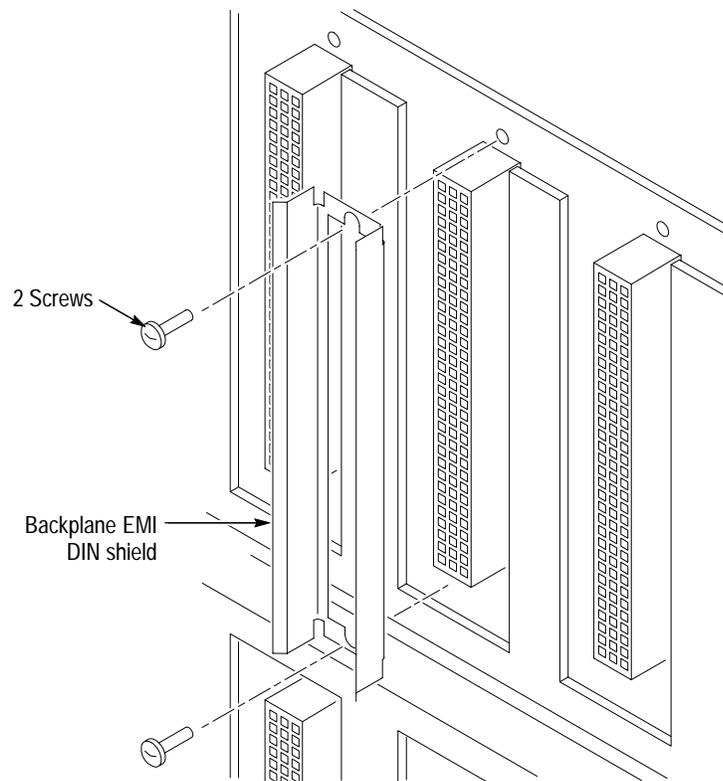

Figure 6: Installing the backplane EMI DIN Shields
2. Install the shields over each backplane connector as shown in Figure 6.